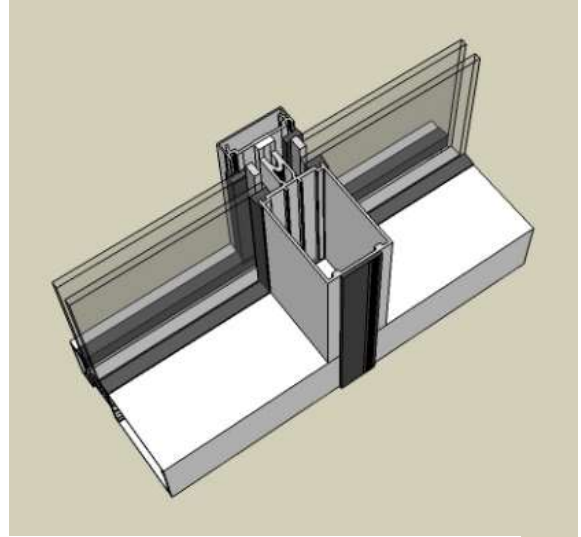

Figure 1: Adhere Mullion Seal to Mullion
3. Remove release liner over adhesive from side facing mullion **only**. *Take care to remove release liner without peeling the adhesive from the rubber.* Firmly set in place (Fig. 1). A soft rubber brayer (roller) is recommended; bond will increase with pressure and time.